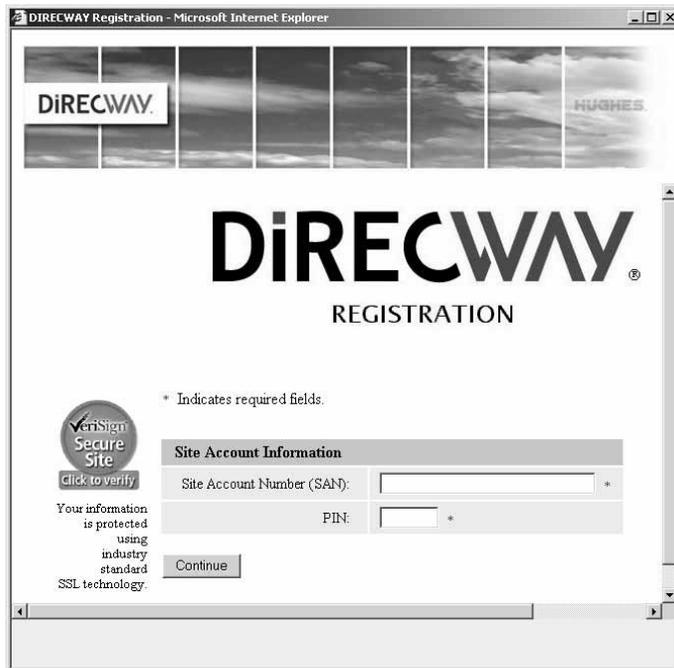

Figure 35: Registering a remote terminal: entering SAN and PIN
31. If you are installing the terminal for a customer in the United States, ask the customer to enter their site account number (SAN) and PIN and then click **Continue** on the consumer registration screen shown in Figure 35.